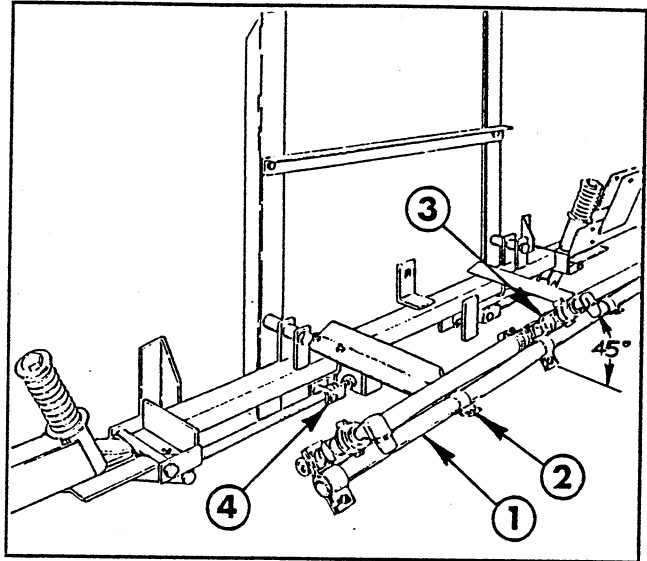

FIG. 13
46. Center and attach the center boom pipe to the center boom angles with two clamps, 3/8" x 1" hex hd. cap screw, washers and lock nuts (FIG. 13).
47. Loosely attach the triple barb nozzle assembly in the approximate center of the center boom pipe. For most uniform spray coverage, position all nozzle assemblies at a 45 degree angle. Tighten clamp screw to secure the nozzle to the boom pipe. See FIG. 13.
48. Loosely attach a single barb nozzle assembly to each end of the center boom pipe. Place two hose clamps on the two 3/4" x 19" jumper hoses and connect the single barb nozzles to the triple barb nozzle. Tighten all fasteners securely (FIG. 13).
49. Attach the strut assemblies to the adjustable clevis assemblies found on each side of the main frame tube with (2) 1/2" x 2" clevis pins and (2) 1/8" x 1" cotter pins (FIG. 13).
54. At the adjustable clevis assemblies (See FIG. 13), adjust the booms to the level position by adjusting the jam nuts to the desired position, then tighten the end nuts against the boom frame support member.